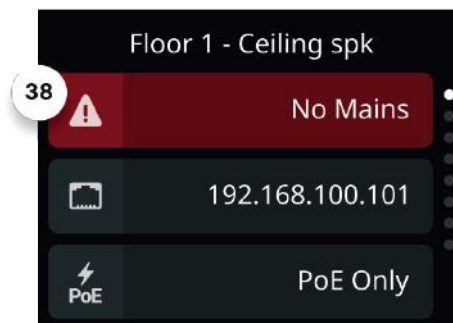

Fig. 2.6 - No Mains
In this state (38), mains are not connected. Figure 2.6 shows an example of a no mains alarm while the device is powered by PoE.